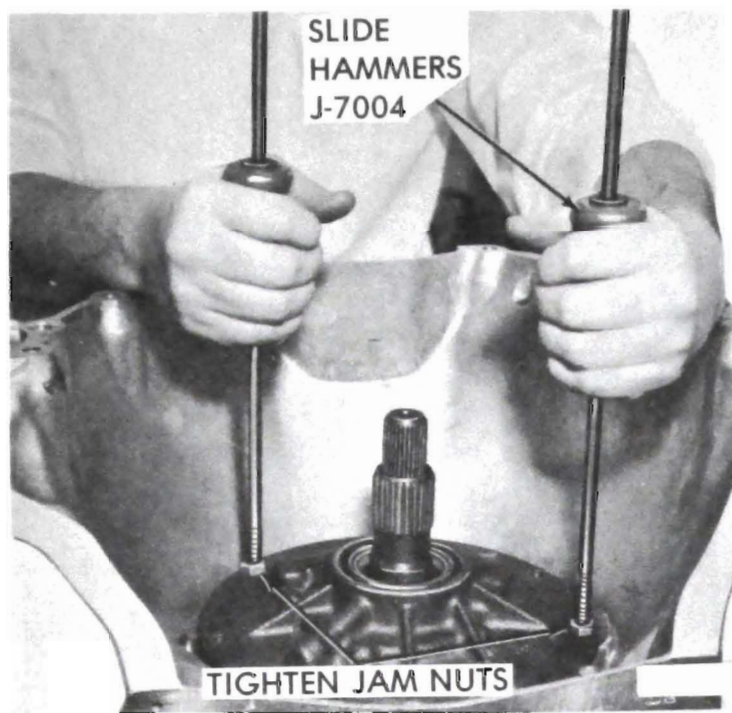

Figure 75-91
2. Install two (2) threaded slide hammers J- 7004 into threaded holes in pump body. Tighten jam nuts and remove pump assembly from case. See Figure 75-91.